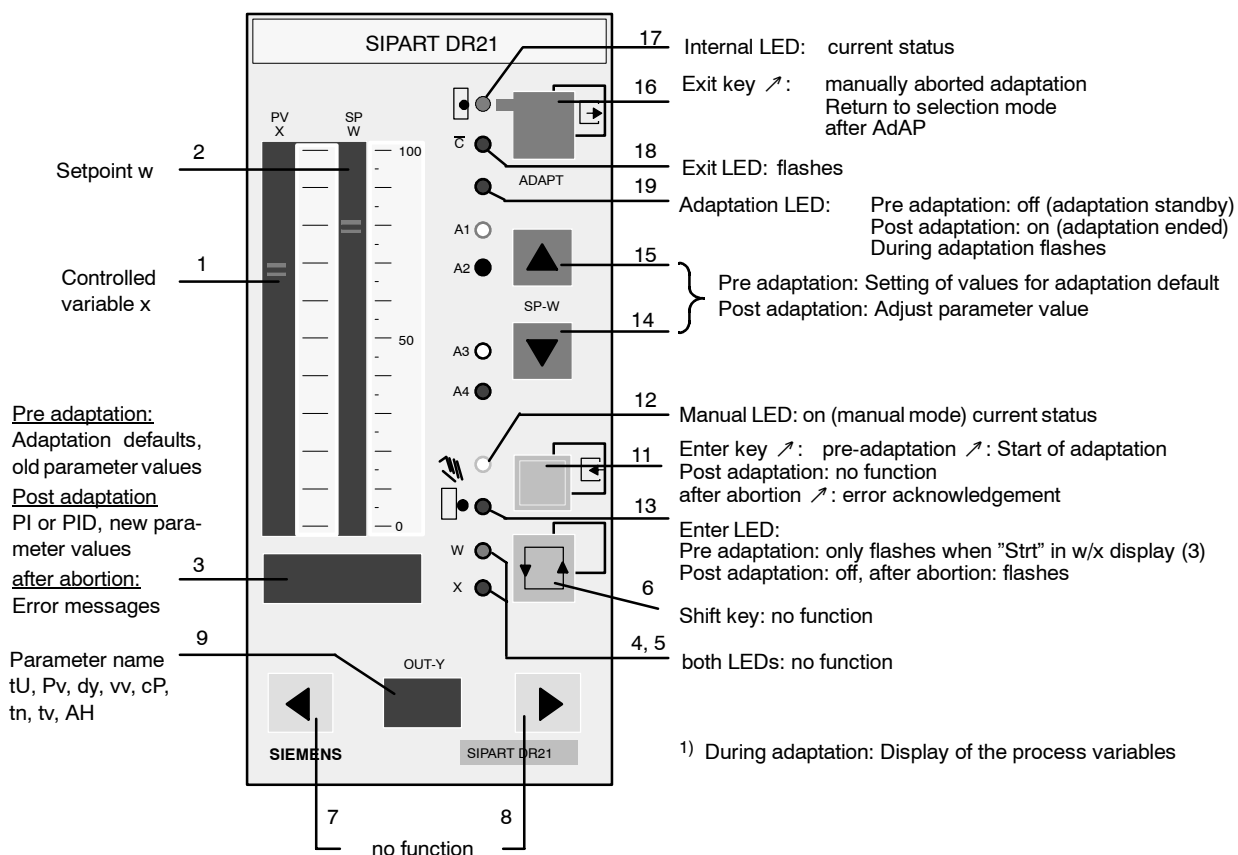

Figure 5-5 Control and display elements in the configuration mode AdAP
In the case of aborted adaptation the error message flashes in the digital w/xdisplay (3). The error messages are acknowledged with the Enter key (11) (see figure 5-5, page 160).